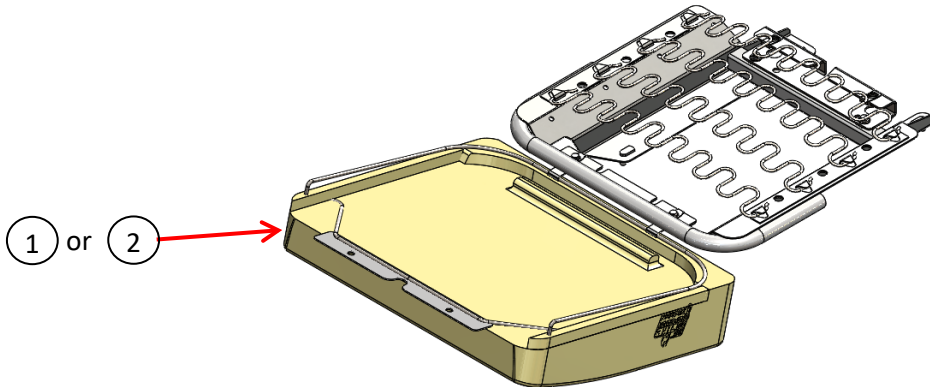

Figure 5
8. Hook the wire in the J-clips at the front of the seat cushion. See Figure 5.